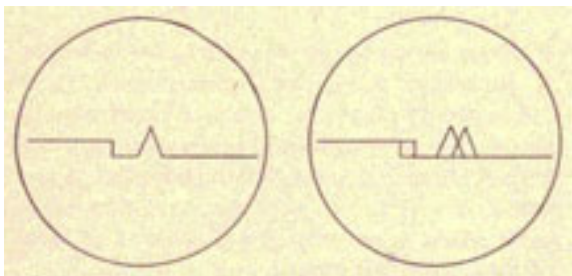

Figure 4 SJ-7. Scope with and without lobing.
- (a) Turn the lobe motor switch (7) on the range indicator unit on.
- (b) Turn on the lobe separation knob (2) on the range indicator.
- (c) Rotate lobe separation knob (3) clockwise, until two pips and two steps are present, as illustrated in figure 4 SJ-7.